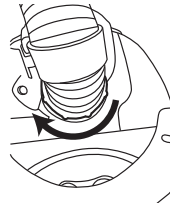

Fig. 3
- Connect and twist clockwise to secure proper hose connection. (Fig. 3)